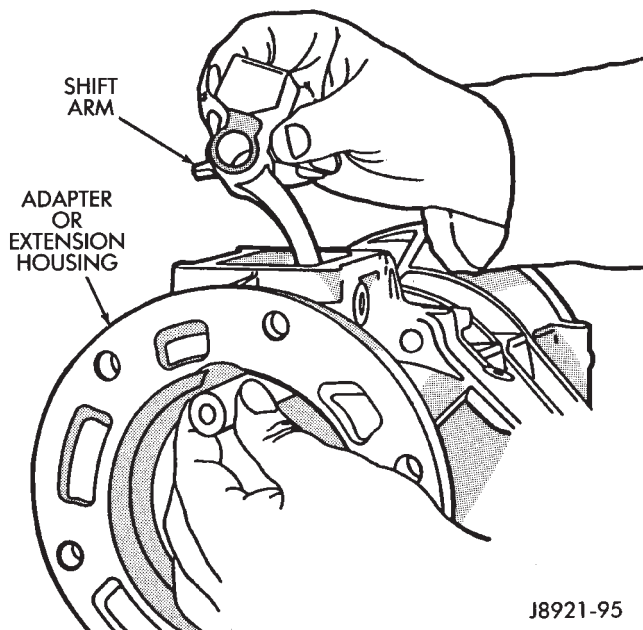

Fig. 88 Installing Adapter Housing And Shift Arm
(6) Install adapter or extension housing on intermediate plate (Fig. 88). Tighten housing bolts to 37 N·m (27 ft. lbs.) torque.
(7) Install shift arm (Fig. 88).